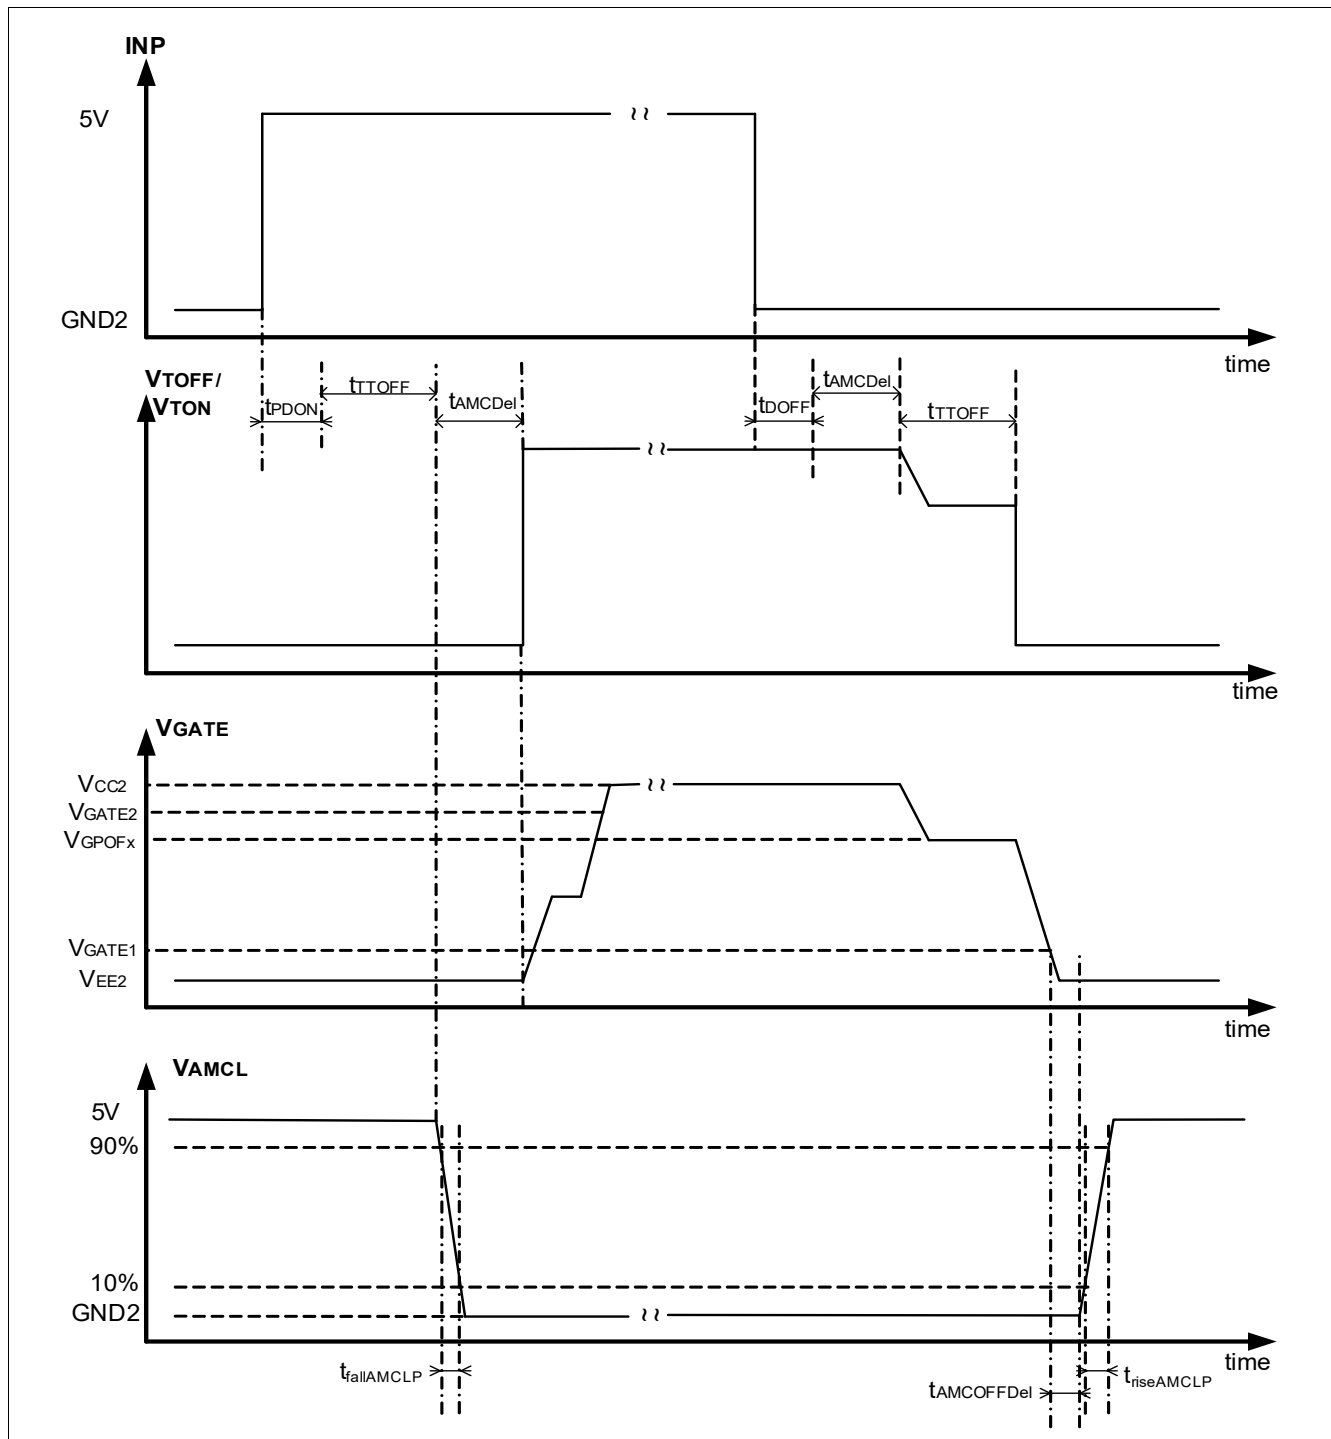

Figure 16 AMCLP operation
*Note: The timing t_{DOFF} doesn't consider the **SCFG.AMCLD** setting (Figure 16). The regular turn-on/off processing will be delayed by the **SCFG.AMCLD** value if setting is > 0 (refer to Table 59).*
At turn-on, in order to avoid the risk of cross-current in the output stage of the device, a delay can be generated in order to delay the PWM control signal (**Figure 16**). The delay is configured via bit field **SCFG.AMCLD**.